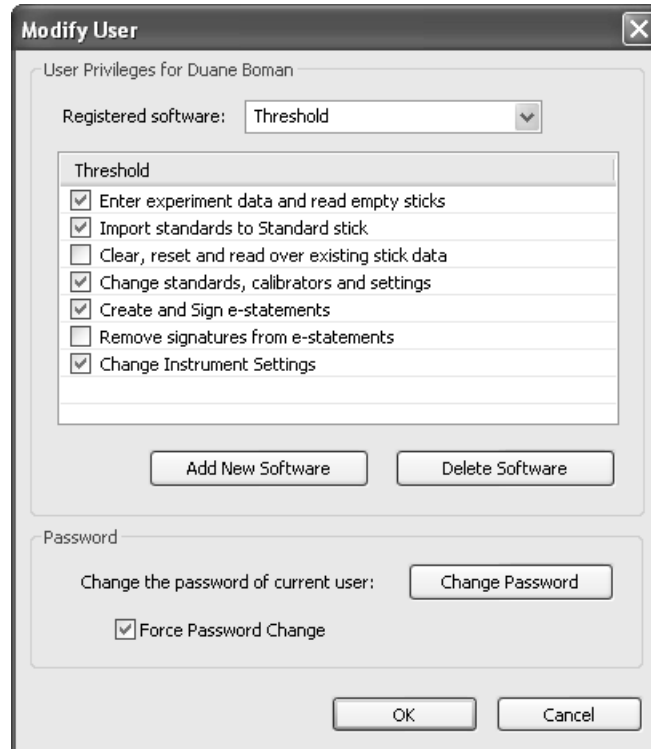

Figure 8-7: The Modify User Dialog
- 4) Click the **Modify User** button. This opens the **Modify User** dialog (Figure 8-7).